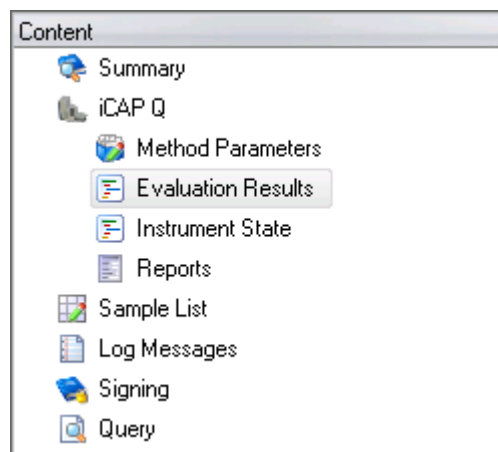

Figure 7-19. Added items of a completed LabBook
- Click **iCAP Q** to show the items added to the LabBook after measurement, see Figure 7-19.